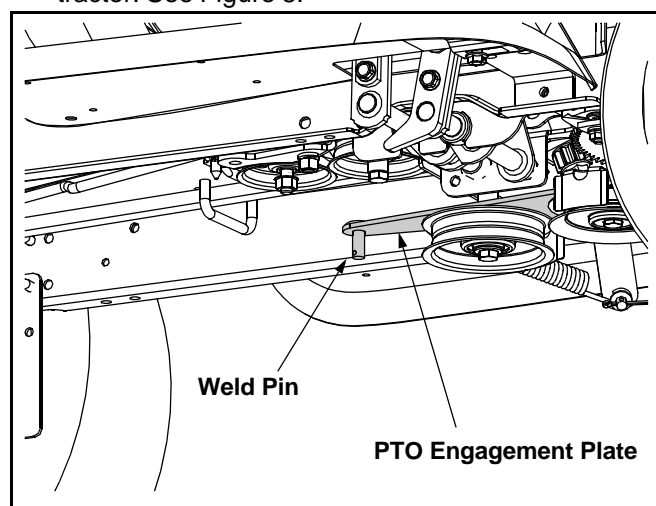

Figure 8
- Locate the PTO engagement plate beneath your tractor. See Figure 8.
- Note the location of the weld pin on the rear portion of the PTO engagement plate. This pin is where the deck brake cable attaches, when operating the tractor with the cutting deck mounted. See Figure 8.